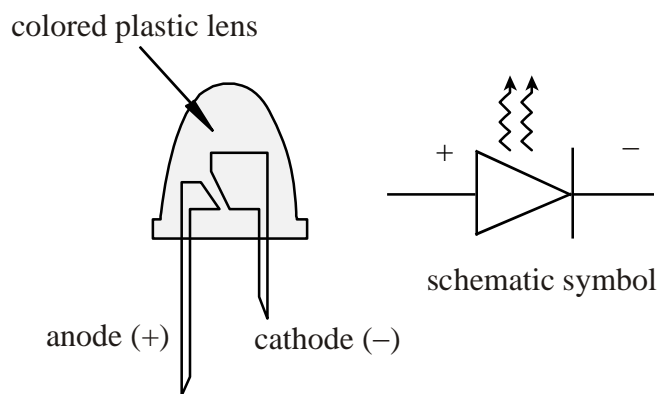

Figure 4.7 LED
- (2) Examine the silicon diode and LED. Decide which lead is the anode and which is the cathode. As shown in the Figure 4.7, the anode lead on an LED is longer. If using the HP 34401A DMM, select the diode test function ($\rightarrow\triangleleft$) and determine if the leads are identified properly. You will notice that the diode test does not work properly for the LED. This is because the LED voltage drop is larger than the expected range for a silicon diode (0.3 V to 0.8 V). However, you should see the LED light up when properly biased by the DMM. Write down the measured voltage drop across the silicon diode.